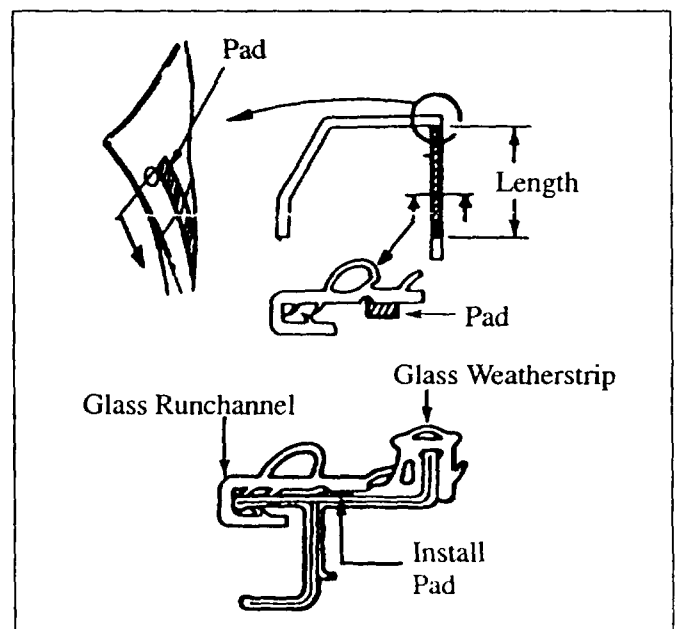

Figure 5: Front Door
2. Pull back the glass run channel. **Figure 5.**